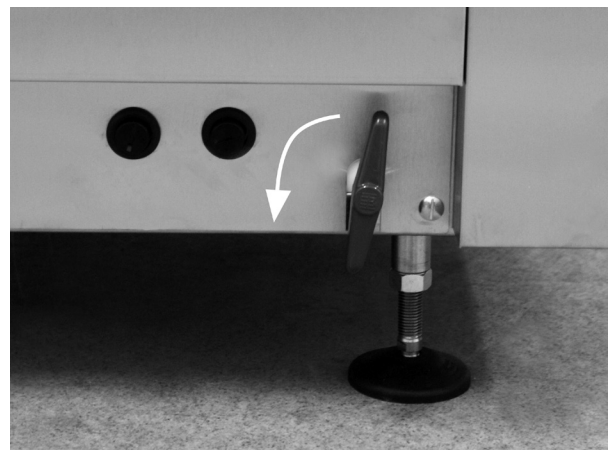

Figure 3: Drain Valve
3. Close the drain valve on the right side of the machine (see Figure 3 Drain Valve).